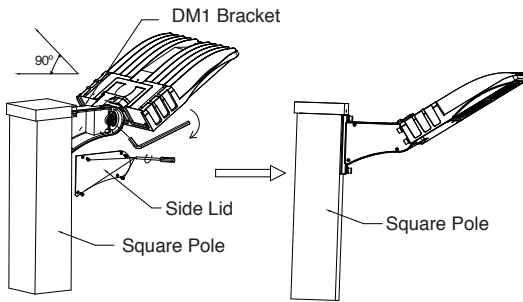

Figure 5-1
1. Fix the fixture to the pole by referring to Installation Instruction 3, loosen the side cover screws and the fixing screws, adjust the fixture up and down to an appropriate position, tighten the screws and fix the side cover, then finish installation. (Figure 5-1)